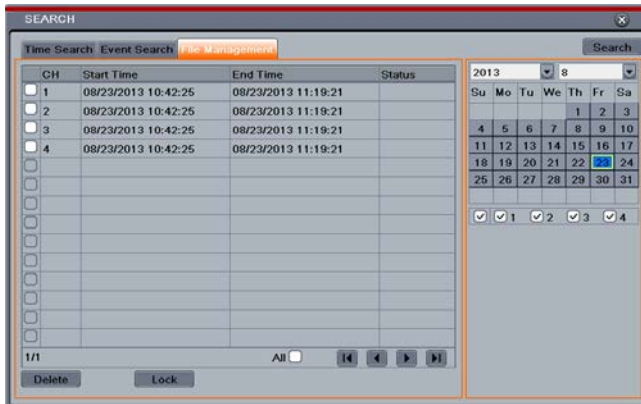

Fig 6-3 Search Configuration-File Management
Step 1: Enter into Menu→Search→File Management interface. Refer to Fig 6-3: